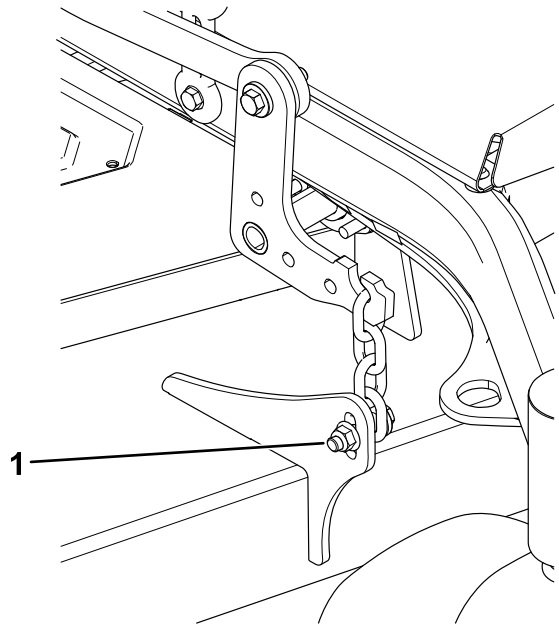

**Figure 75**
- Place 2 blocks, each having a thickness of 6.6 cm (2-5/8 inches), under each side of the front edge of the deck but not under the anti-scalp roller brackets (Figure 75).
- Place 2 blocks, each having a thickness of 7.3 cm (2-7/8 inches), under the rear edge of the cutting deck skirt, 1 on each side of the cutting deck (Figure 75).